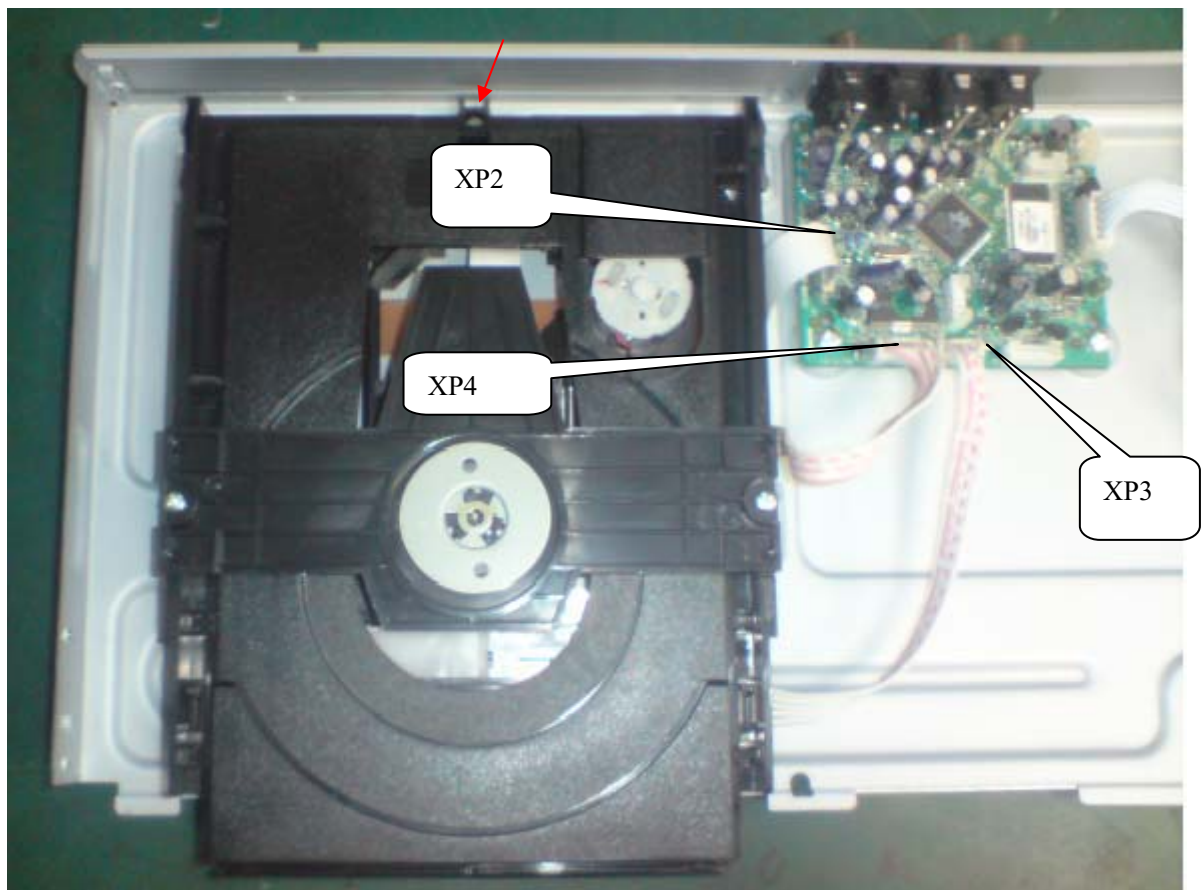

Figure 6
**Step5:** Dismantling Loader, disconnect the 3 connectors (XP2, XP3, XP4) aiming in the below figure, and remove 1 screw that connects the loader and the bottom cabinet. (Figure 6)